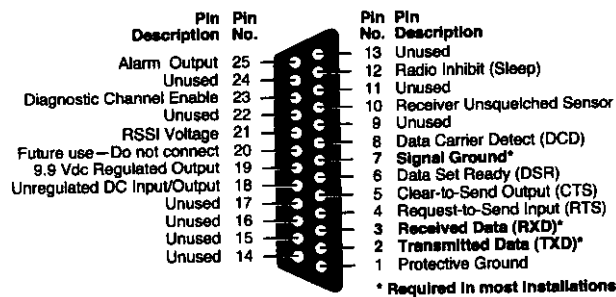

Figure 18. Transceiver interface connector pins
3. Connect the data equipment to the transceiver's DATA INTERFACE connector. Use only the required pins for the application—Do *not* use a fully pinned (25 conductor) cable. Typical applications require the use of Pin 2 (transmit data—TXD), Pin 3 (received data—RXD) and Pin 7 (signal ground). Figure 18 shows a detailed view of the DATA INTERFACE connector.